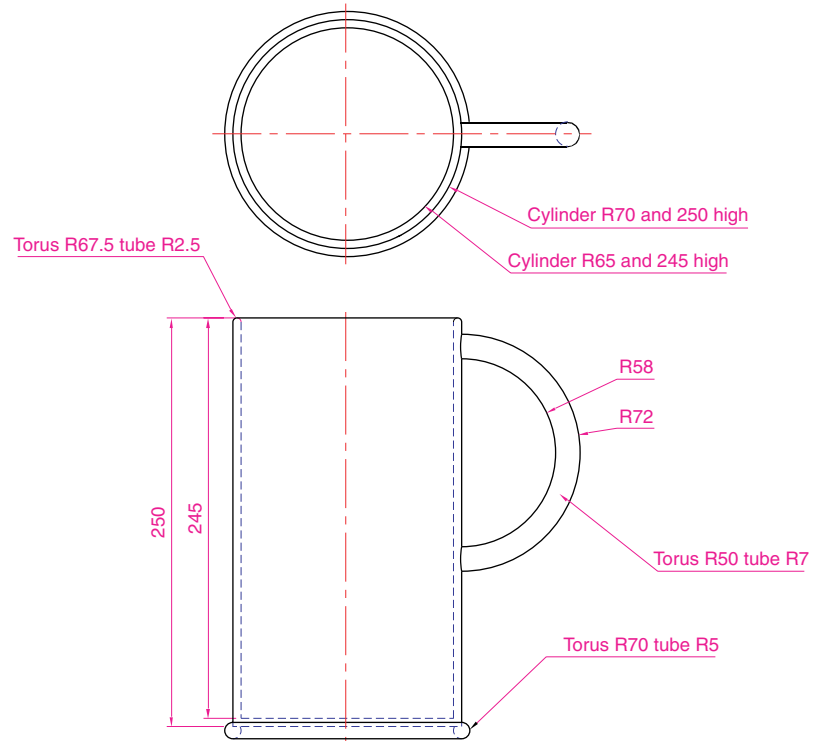

Fig. 15.48 Exercise 4
4. Construct a solid of revolution of the jug shown in the orthographic projection (Fig. 15.48). Construct a handle from an extrusion of a circle along a semicircular path. Union the two parts. Place the 3D model in a suitable isometric view and render.